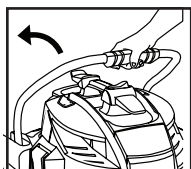
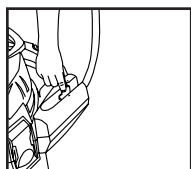

FIGURE 1
FIGURE 2
1. Lift fold down handle into upright position and lock in place. **FIGURE 1 & FIGURE 2.**